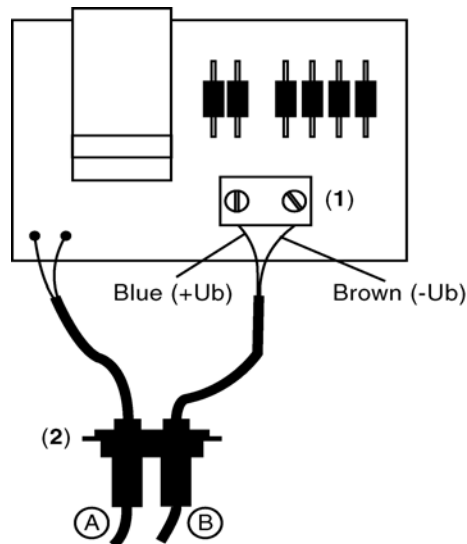

Fig. 2.26 Connecting the battery cable to desktop power adapter LT25W
4. Connect the supplied cable to the terminal (1) as shown in Fig. 2.26
5. Replace the cable feed-through (2) (Fig. 2.26) for a cable with the one supplied for two cables